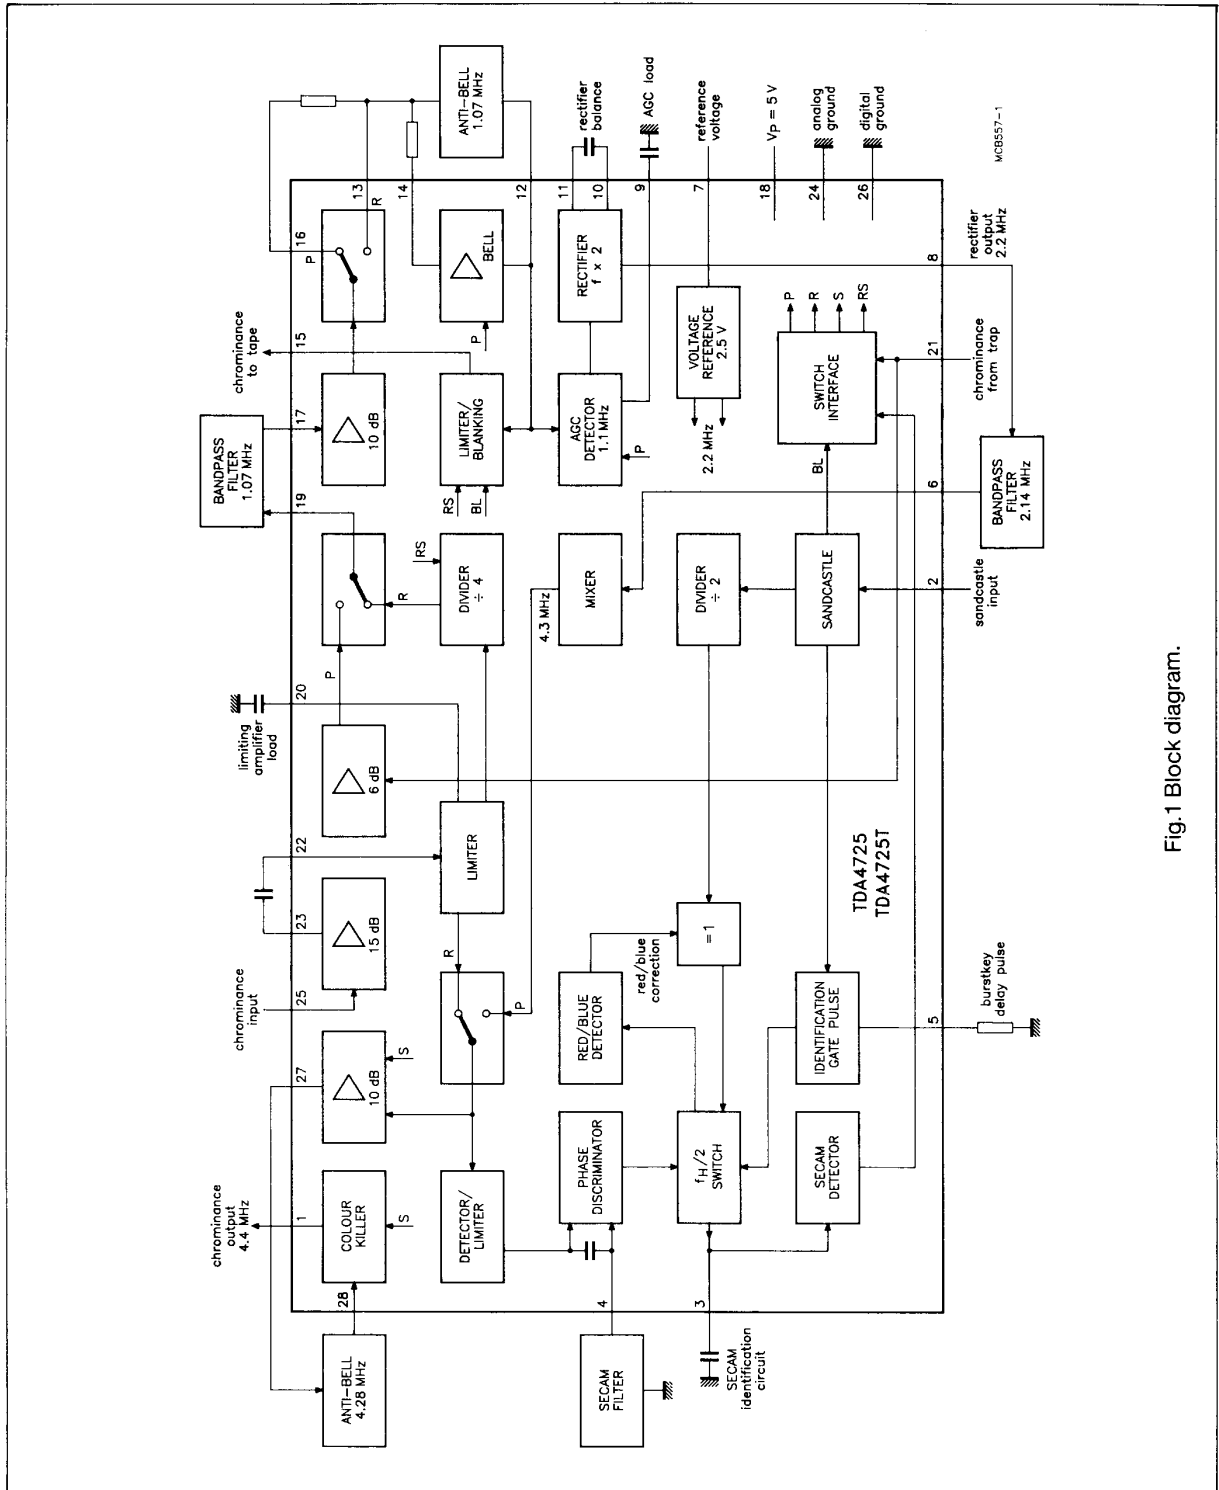

Fig.1 Block diagram.
**FUNCTIONAL DESCRIPTION** (see Fig.1)